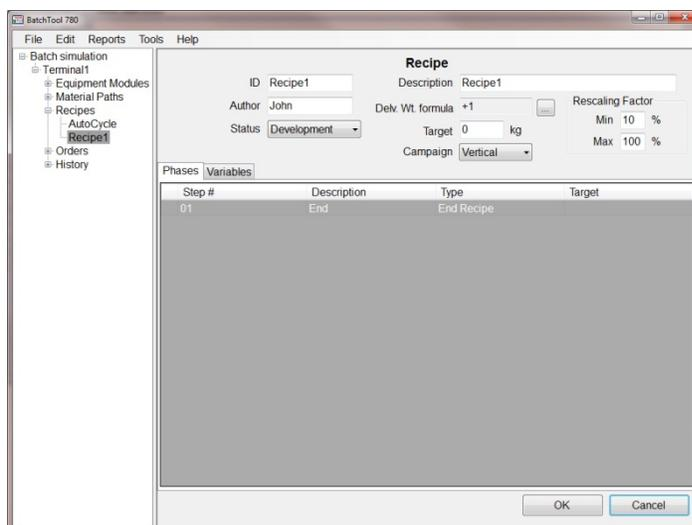

Figure 11-1: Recipe, Initial Screen – Phases
Phases can also be added from within the Recipe view screen (Figure 11-1), by right-clicking on the phase that should follow the new phase. Phase type is selected from the context menu that appears.
- Double-clicking a phase in the Recipe list (Figure 11-1) will open its configuration screen.